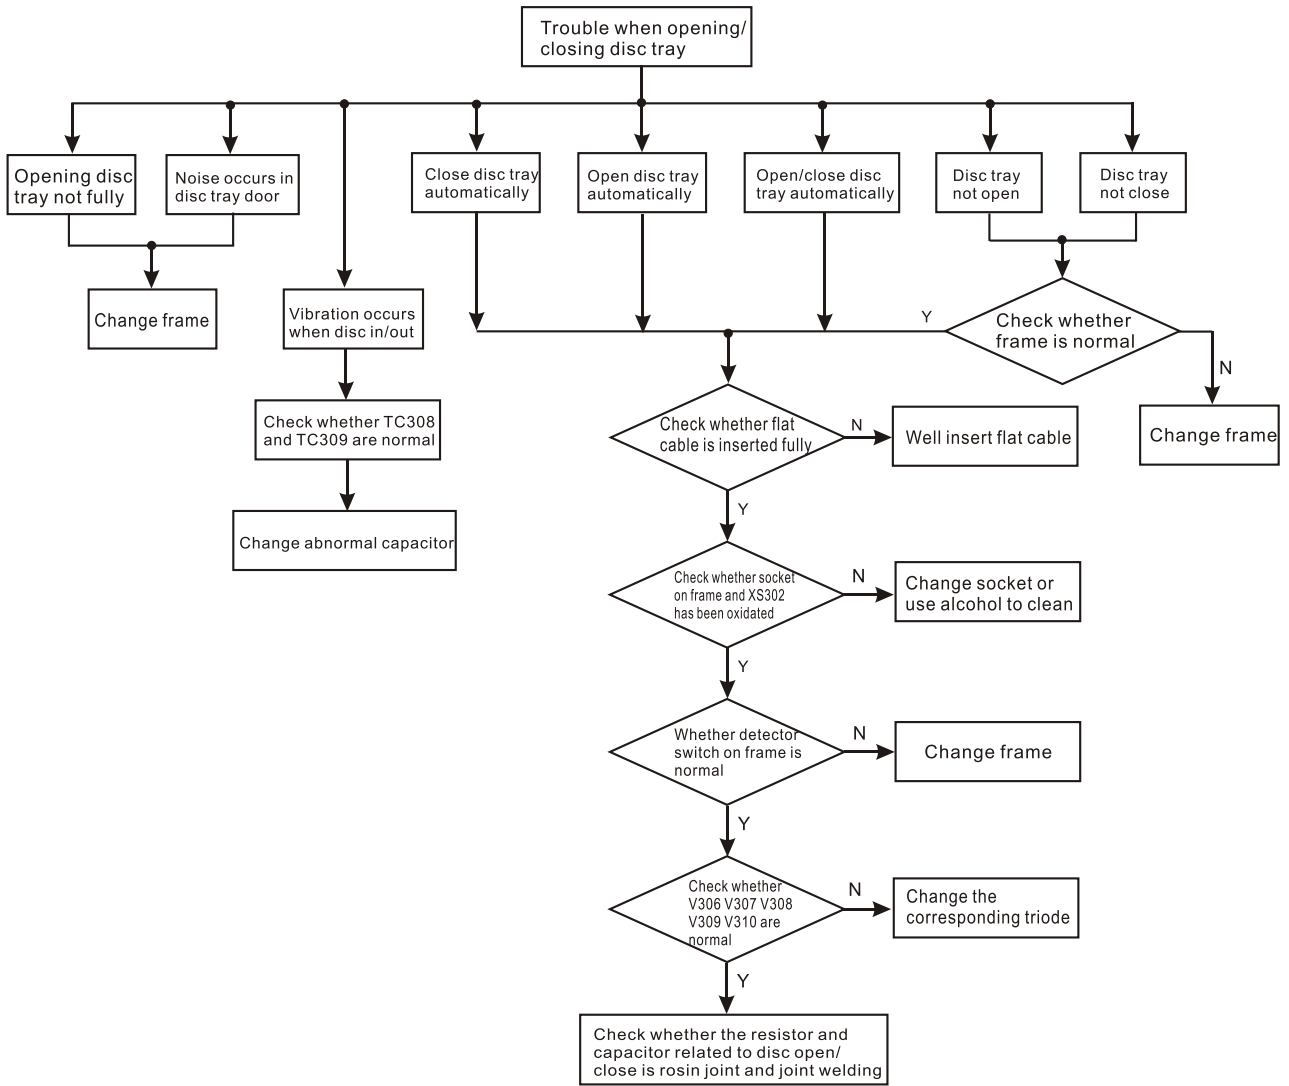

Figure 3.2.5.2 Troubleshooting flow chart when opening/closing disc tray
3. Troubleshooting process is shown as the following figure 3.2.5.2: